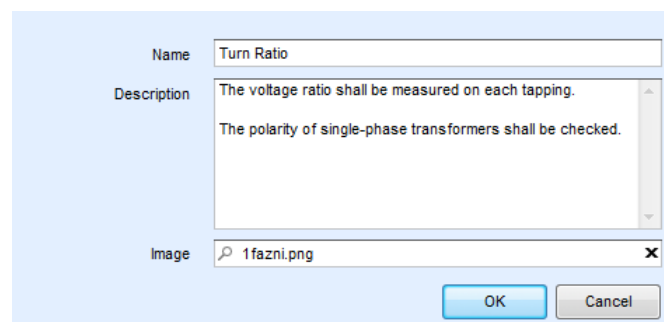

Figure G.6: Editing the Auto sequence header
**Auto test:** Edit Name, Description and Image (see Figure G.6).